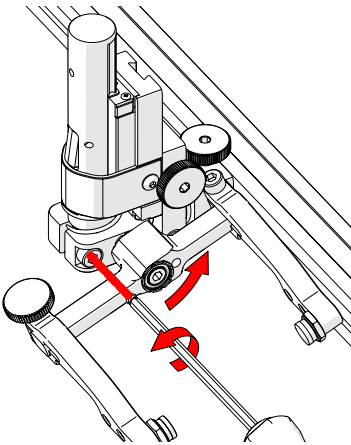

Fig. 69 - Loosen 3 mm screw
2. Using the supplied 3 mm hex driver loosen the transverse adjustment screw (*Fig. 69*) and rotate the yoke about the vertical shaft achieving the desired angle.